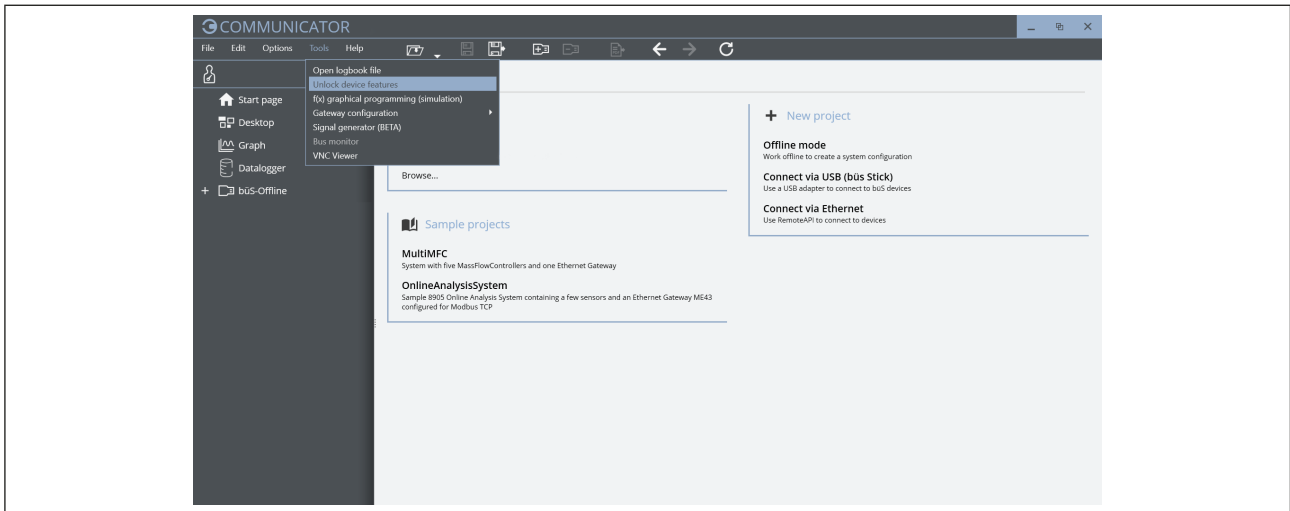

Fig. 32: Activate licence
- **Unlock device features** (see „Fig. 32: Activate licence“)